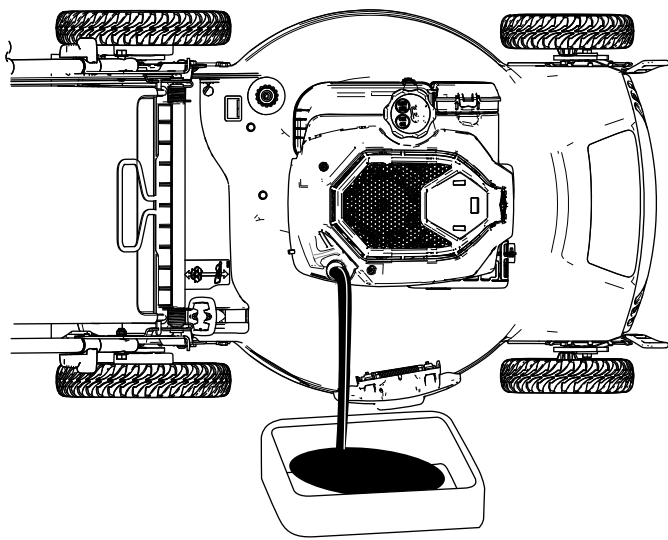

Figure 27
- 4. Tip the machine onto its side (so that the air filter is up) to drain the used oil from the oil-fill tube (Figure 27).